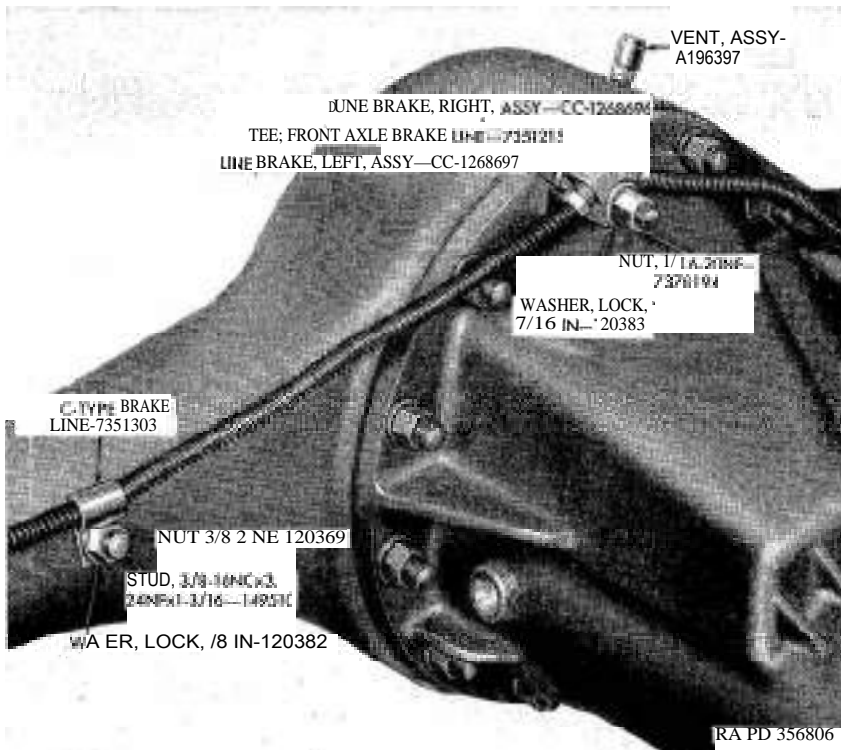

Figure 48. Front axle brake line tee and connections.
a. Remove Brake Line Assemblies and Front Axle Brake Line Tee (fig. 48).
- (4) Remove flange bearing cups (M and AT) from flange assemblies. Remove flanges from vise.
- (5) Clamp the lower sections of the left and right flange assemblies (Z and AD) between copper jaws of a vise and remove cap screws, lock washers, and flange bearing lower caps (CC and ZZ).
- (6) Remove flange bearing cups (M and AT) and VV) from flange assemblies. Remove flanges from vise.
e. Remove Vent Assembly. Remove vent assembly (fig. 48) from axle housing.
f. Remove Brake Line C-Type Clips (fig. 48). Remove nuts, lock washers, brake line C-type clips and studs from axle housing.